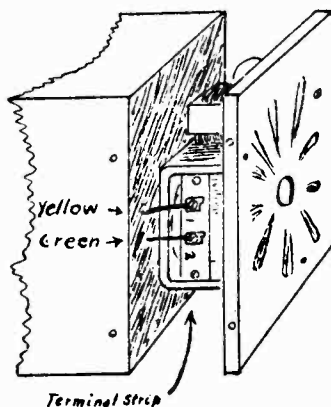

Fig. 3
**IMPORTANT! CAUTION. CHECK POLARITY OF AUTOMOBILE STORAGE BATTERY.** If positive side of battery is grounded to chassis DO NOT DISTURB connections on terminal strip inside of speaker unit. In the event that negative (—) side of battery is grounded to the chassis. Remove screws holding cover on speaker unit. Pull cover slightly forward exposing terminal strip on side of speaker opposite from tube. (See Figure 3.) Reverse connection No 1 and 2, i.e. Place yellow wire on terminal No. 2 and green wire on terminal No. 1.